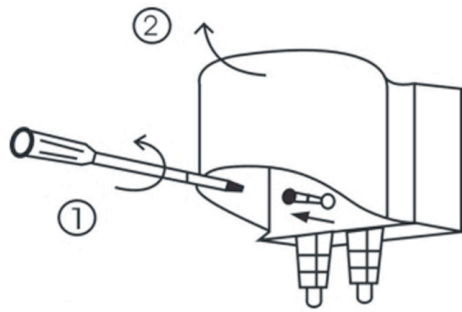

Fig 1.
- 2.9 Fit the base per Fig. 1. Insert the grommets into the drilled holes; screw the unit into place as per Figs1 & 2.